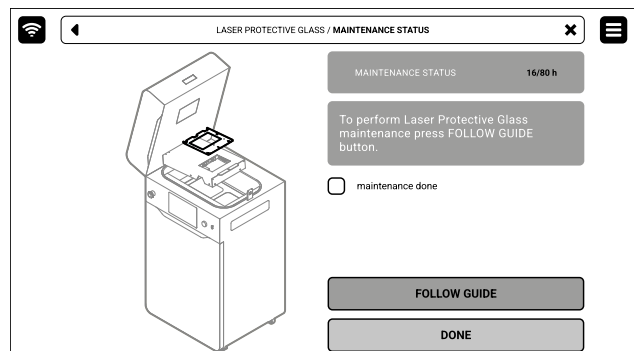

Fig. 13.7 The screen of the maintenance of the laser protective glass.
3. In this case, mark **MAINTENANCE DONE** once you have completed the cleaning procedure, and then the **DONE** button. The timer will reset to zero (fig. 13.7).